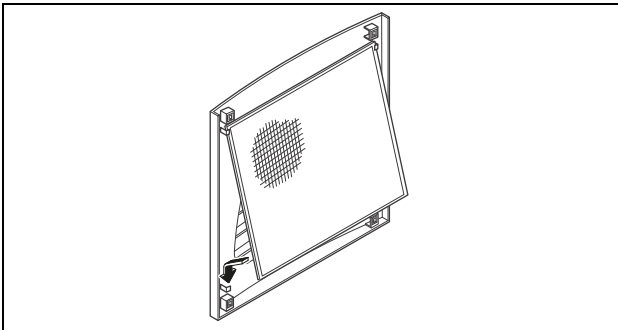

Fig. 31: Installing the filter mat
- Insert the filter mat into the louvred grille as shown in fig. 31 and push it back onto the enclosure.